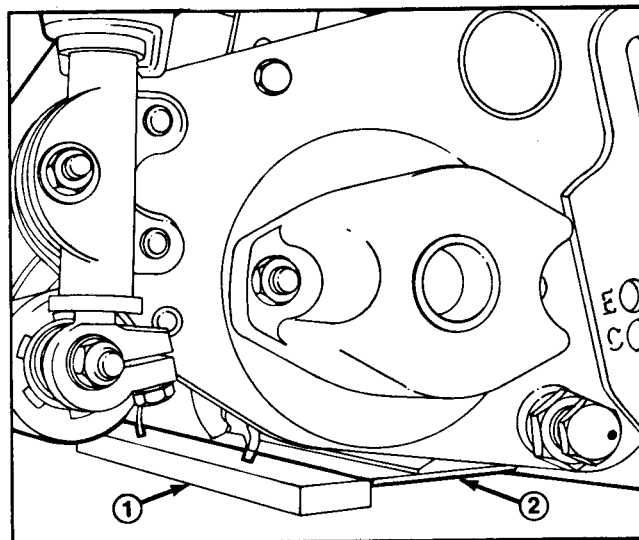

Figure 12
6. Position a 1/4 inch or thicker plate under the reel blades and against the front face of the bed-knife (Fig. 12).